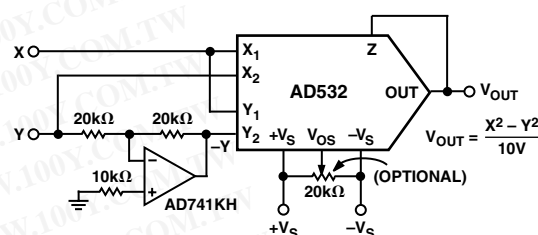

Figure 15. Differential of Squares Connection
The differential input capability of the AD532 allows for the algebraic solution of several interesting functions, such as the difference of squares,  $X_2 - Y_2/10$  V. As shown in Figure 15, the AD532 is configured in the square mode, with a simple unity gain inverter connected between one of the signal inputs (Y) and one of the inverting input terminals ( $-Y_{IN}$ ) of the multiplier. The inverter should use precision (0.1%) resistors or be otherwise trimmed for unity gain for best accuracy.